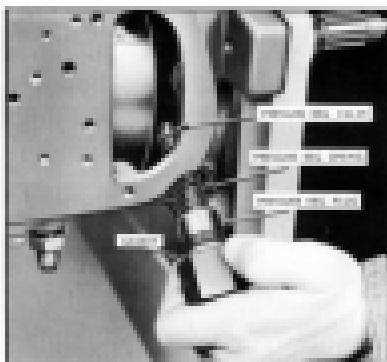

Fig. 188. Removing Pressure Regulator Plug Assembly.
3. Remove front pump locating washer from its counterbore using Snap Ring Pliers (Fig. 188).